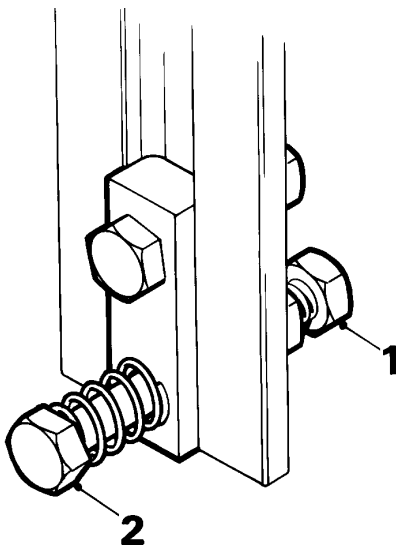

FIGURE 3
A stop bolt, shown in fig 3, may be fitted to the upper and lower extremities of the rail to prevent unintentional removal of the trolley from the system. To detach the trolley, if stop bolts are fitted, the user grips the nut (1) and depresses the stop bolt (2) to allow the trolley to be removed. The user must not be detached from the Railok system unless in a safe area or connected to an alternative safety system.